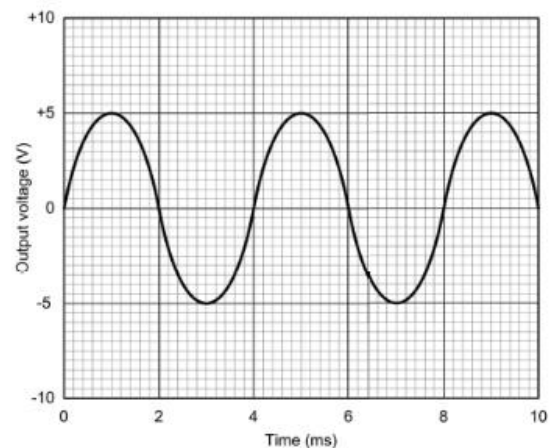

Figure 9.26 See Question 9.14
- 9.14 Design an oscillator circuit that will generate the output waveform shown in Fig. 9.26. Sketch a circuit diagram for the oscillator and specify all component values (including supply voltage). Give reasons for your choice of oscillator circuit.